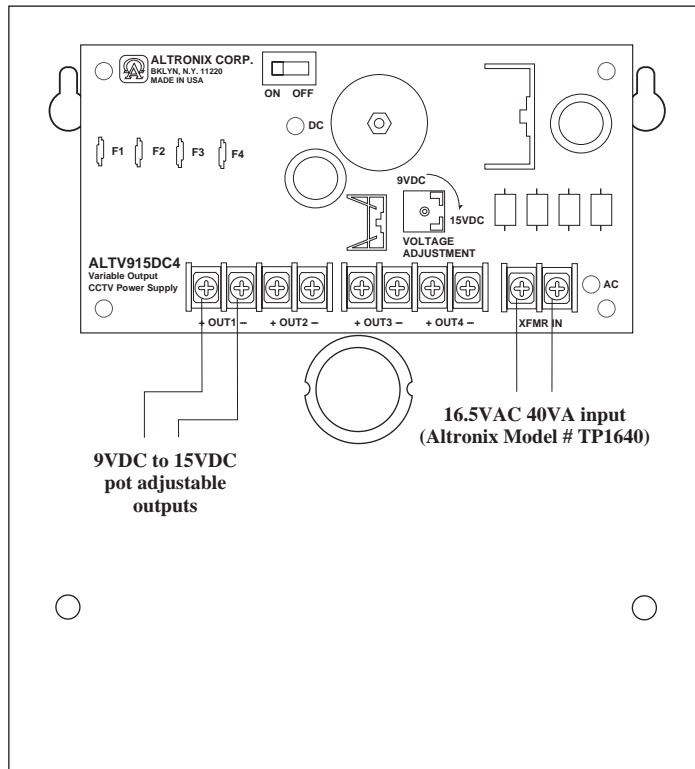

Fig. 1
- Four (4) individually circuit breaker protected outputs.
- Main fuse is rated at 5 amps / 250VAC (*Fig. 1*).
2. Connect 16.5VAC 40VA (Model TP1640) transformer to terminals marked [XFMR IN] (*Fig. 1*)
4. Switch SW1 (*Fig. 1*) to OFF position.
5. Connect each DC CCTV cameras to terminal marked [+ OUT1 - to + OUT4 -] (*Fig. 1*) carefully observing correct polarity.
6. Switch SW1 (*Fig. 1*) to ON position.